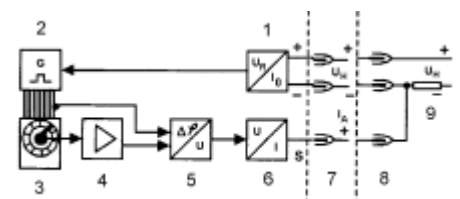

Figure C2: Block diagram
Ten stator segments (see figure C2) are excited with timely consecutive impulses (2). The phase position of the signal – capacitively uncoupled by the rotor – is dependent on the turn angle. The signal is amplified (4) and converted via the phase comparator (5) and the voltage current transformer (6) into a turn-angle-proportional output current.